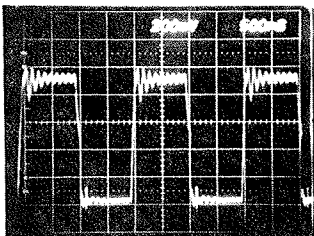

Fig. 4-3
- k. Key bipolar cutting and observe the waveform. (Adjust scope amplitude as necessary.) Correct waveform appears in Fig. 4-3.
Adjust for smooth waveform as in Fig. 4-3.